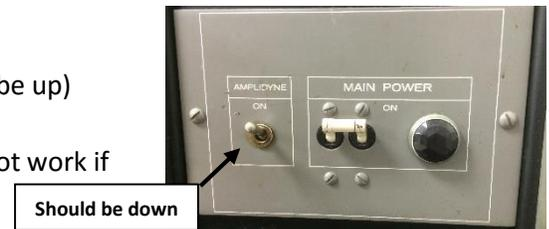

Figure 3 Amplidyne and main power switches
1. Make sure main power is on. (only the main power switch should be up) FIGURE 3
5. Turn the Amplidyne switch up. FIGURE 3